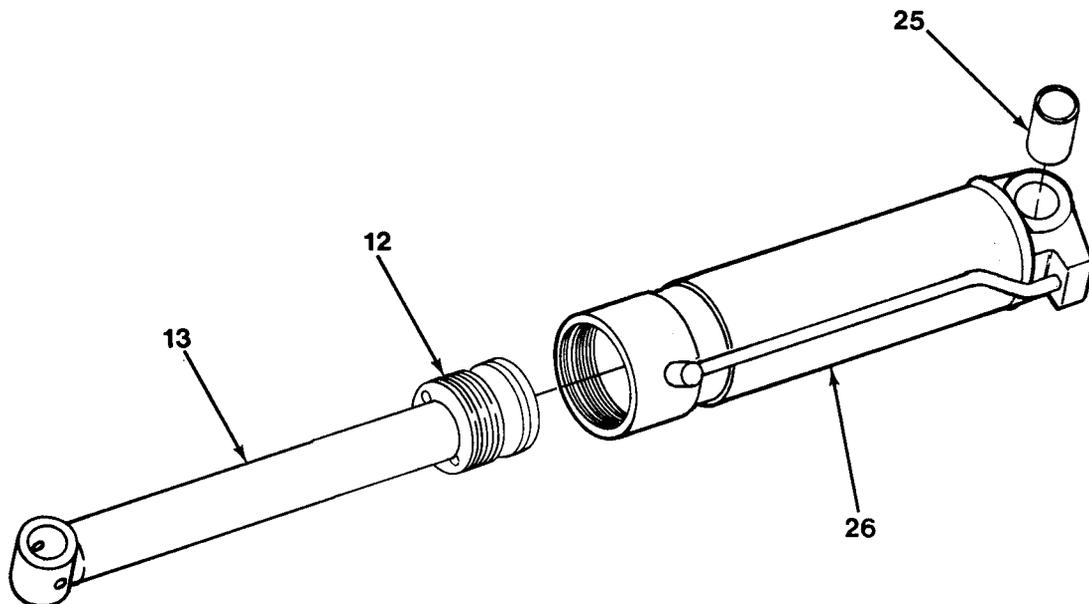

Figure 13-4
1. Using spanner wrench, unscrew gland (12) from cylinder barrel (26, Figure 13-4).
2. Position containers under hold valve mounting block and cylinder mouth to catch oil and slowly remove assembled rod (13).